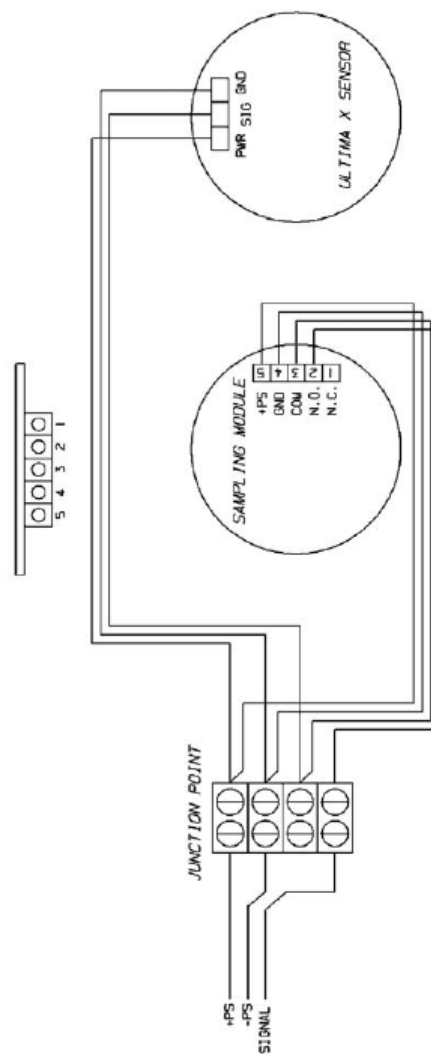
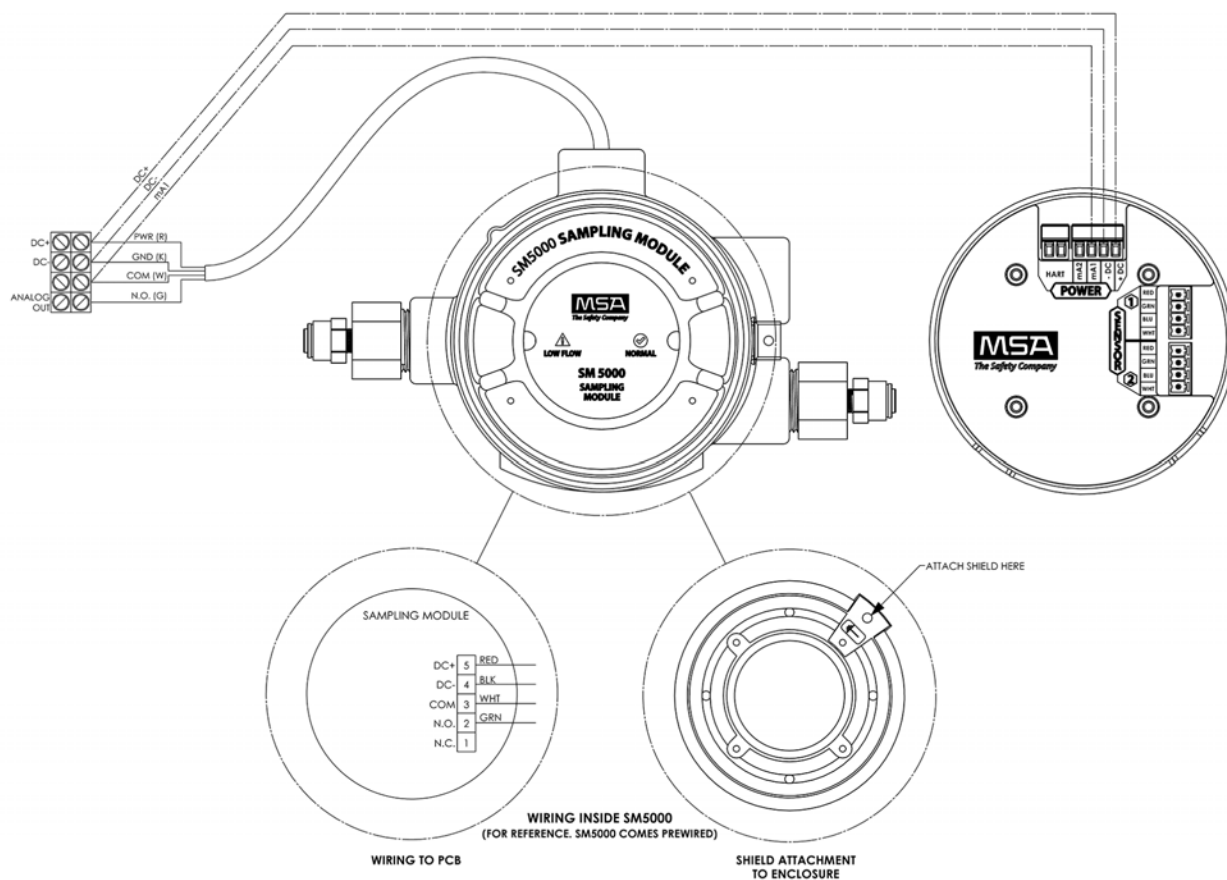
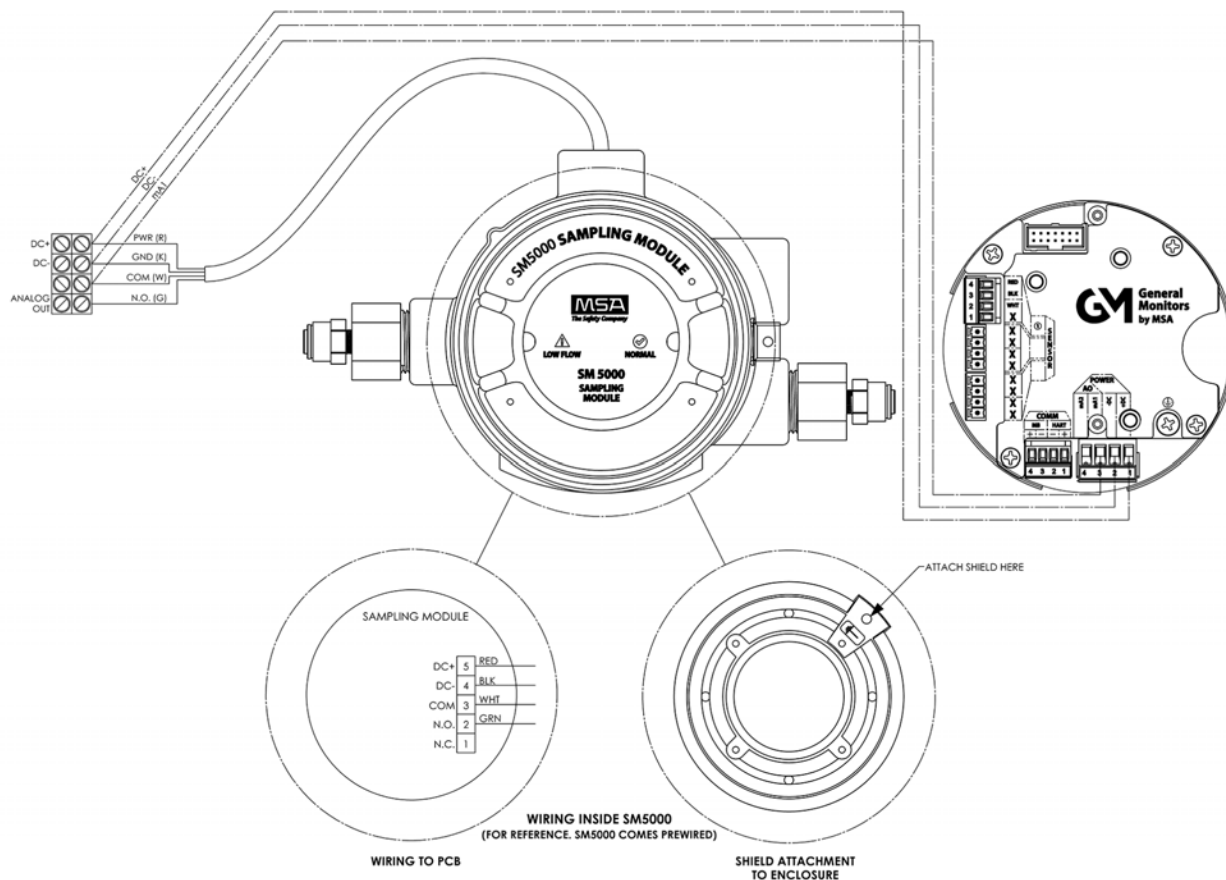

Fig. 5 Typical wiring - Ultima X
Fig. 6 Typical wiring - SM5000 and X5000
Fig. 7 Typical wiring - SM5000 and S5000
A flow detector within the Pump Sampling Module activates a relay when sufficient flow exists for proper gas detection. Generally, the Ultima X5000 transmitter analog output signal can be routed through the sampling module relay. When the flow is insufficient, the relay opens and the (AO) analog output signal is interrupted. Equipment monitoring the AO can be configured to sound an alarm when the signal is interrupted. See Fig. 5, Fig. 6 and Fig. 7 for a typical wiring schematic of the Sampling Module and Ultima X5000 Gas Monitor.
- (1) Check wiring connections (see Fig. 5 and Tab. 4).
- (2) Ensure that power supplied to the controlling instrument is the proper voltage with sufficient current capacity to operate the instrument. Refer to the gas monitor instruction manual for proper power set-up.
- (3) Apply power to the instrument through a remote circuit breaker.